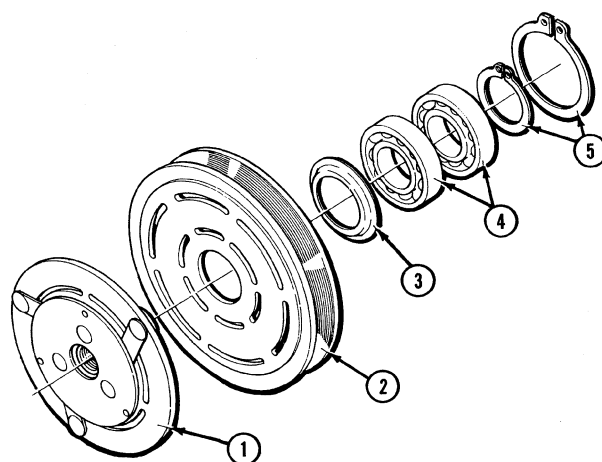

Figure 20
3. Turn the pulley on its bearings. If excessive noise or wobble exists, replace the bearings (4), Figure 20 (to remove the bearings, remove snap rings (5), Figure 20, and remove the bearings from the armature shaft.)
2. Measure the distance between the armature (1) and pulley (2), Figure 20. Clearance should be .014-.025 in. (0.35-0.65 mm).